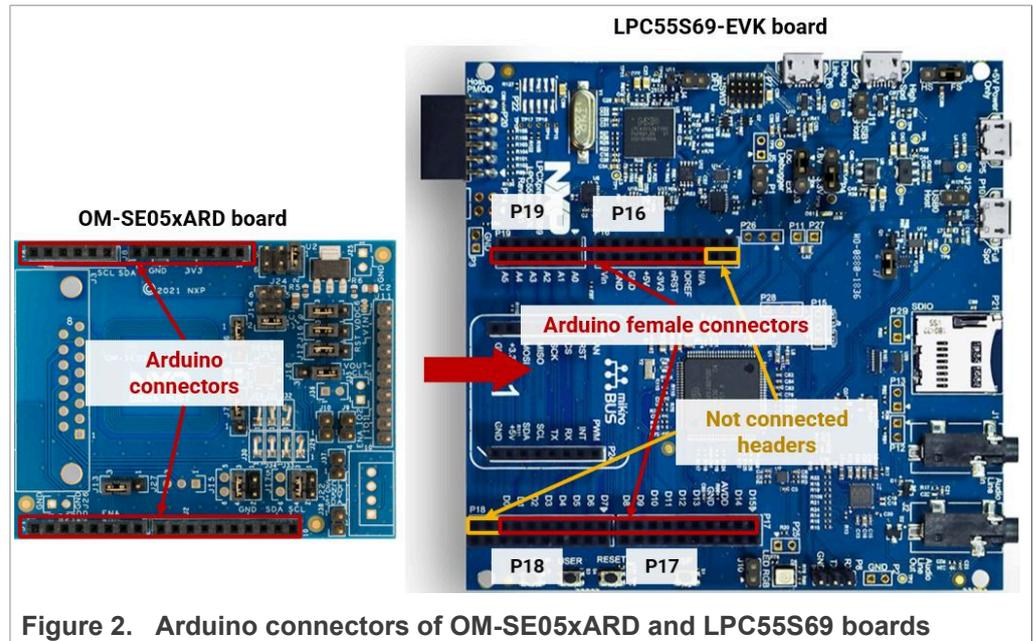

Figure 2. Arduino connectors of OM-SE05xARD and LPC55S69 boards
3. The OM-SE05xARD and LPC55S69 boards can be directly connected using the Arduino headers present in both boards. Connect the OM-SE05xARD board on top of the LPC55S69 as shown in Figure 2. Note that OM-SE05xARD should be aligned with A5 pin in LPC55S69 P19 header and D0 pin in LPC55S69 P18 header. The two last pins in P16 and the two first pins in P18 should be left open.